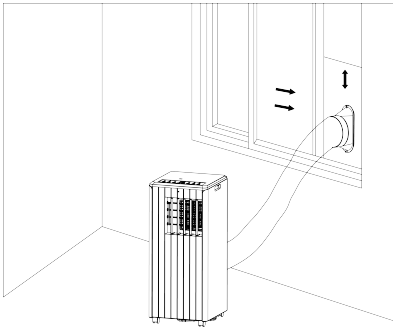
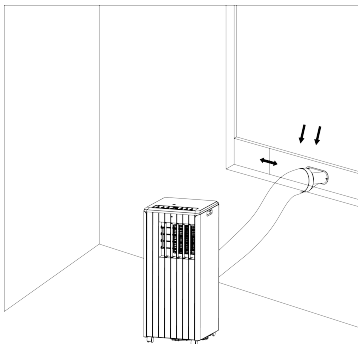

Figure 5
Figure 6
- Elongate the exhaust pipe and snap the flat end of the exhaust pipe joints into the hole of the window sealing plate assembly (as shown in Fig.5 and Fig.6) .